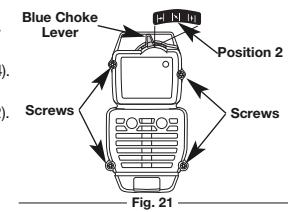

Fig. 21
- Place the blue choke lever in Position 2 (Fig. 21).
- Remove the four (4) screws securing the air filter/muffler cover (Fig. 21). Use a T-20 Torx bit screwdriver.
- Insert the four (4) screws into the holes in the air filter/muffler cover (Fig. 21) and tighten. **Do not over tighten.**